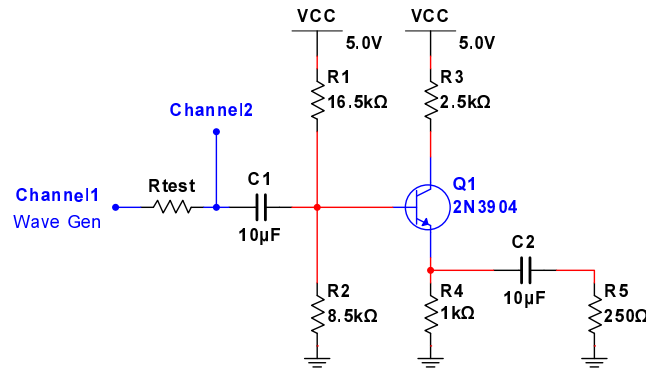

Figure 26: Amplifier setup for input resistance measurement
- Insert a test resistor (R_{test}) that is close to the calculated value of the input resistance R_i as in Fig. 26
- Connect Channel 1, Channel 2 and Wave Gen as shown in Fig. 26